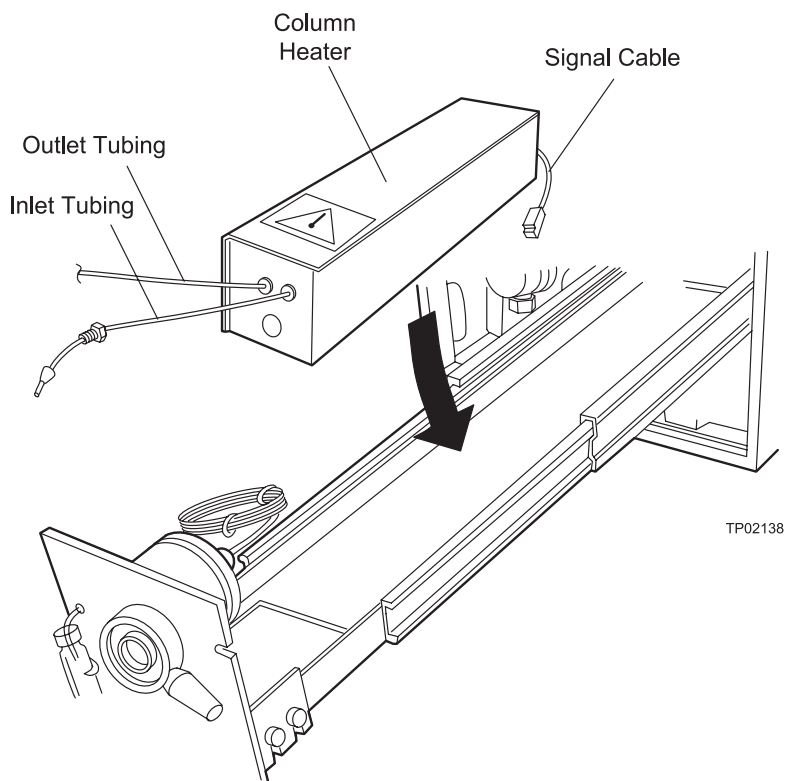

Figure 2-12 Column Heater Orientation
2. Place the column heater in the drawer with the column inlet and outlet tubing pointing toward the front of the drawer (Figure 2-12). Allow the column heater to lie flat in the drawer.